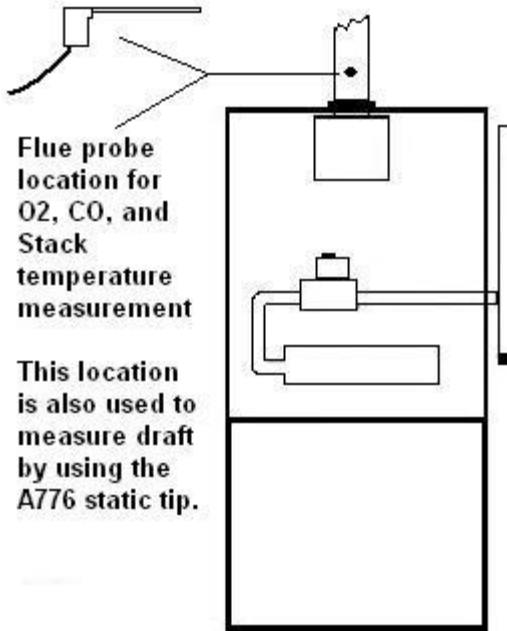

Figure 1
3. Insert the flue probe into the test location of the device under test. The probe tip should be in the middle of the flue pipe or exhaust stream. Refer to figures 1 through 3 for typical test locations.